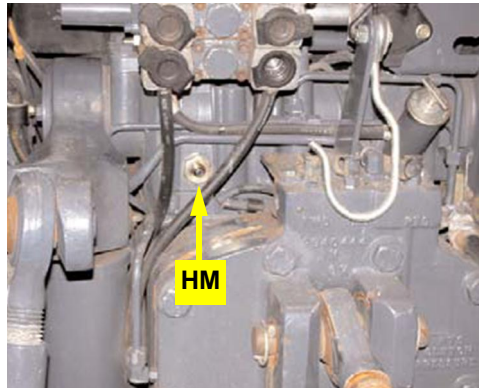

Figure 7b: Installed tank (return) fitting
- b. Tank drain for the hydraulic system will be relieved to the rear casing of the machine to a port just below the hydraulic valve stack. Remove the #12 ORB hex-plug and install the provided JIC fitting **HM** (Figure 7b).